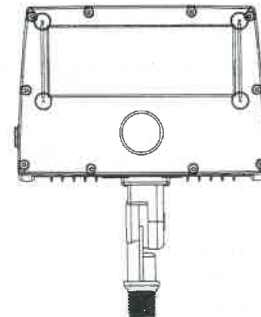

Fig. 4
WIRE GUARD INSTALLATION · Order Separately (Fig. 4)
1. Drill 4 threaded holes for M3 screws, between 0.15" - 0.19M deep (see Fig. 4 for hole locations).